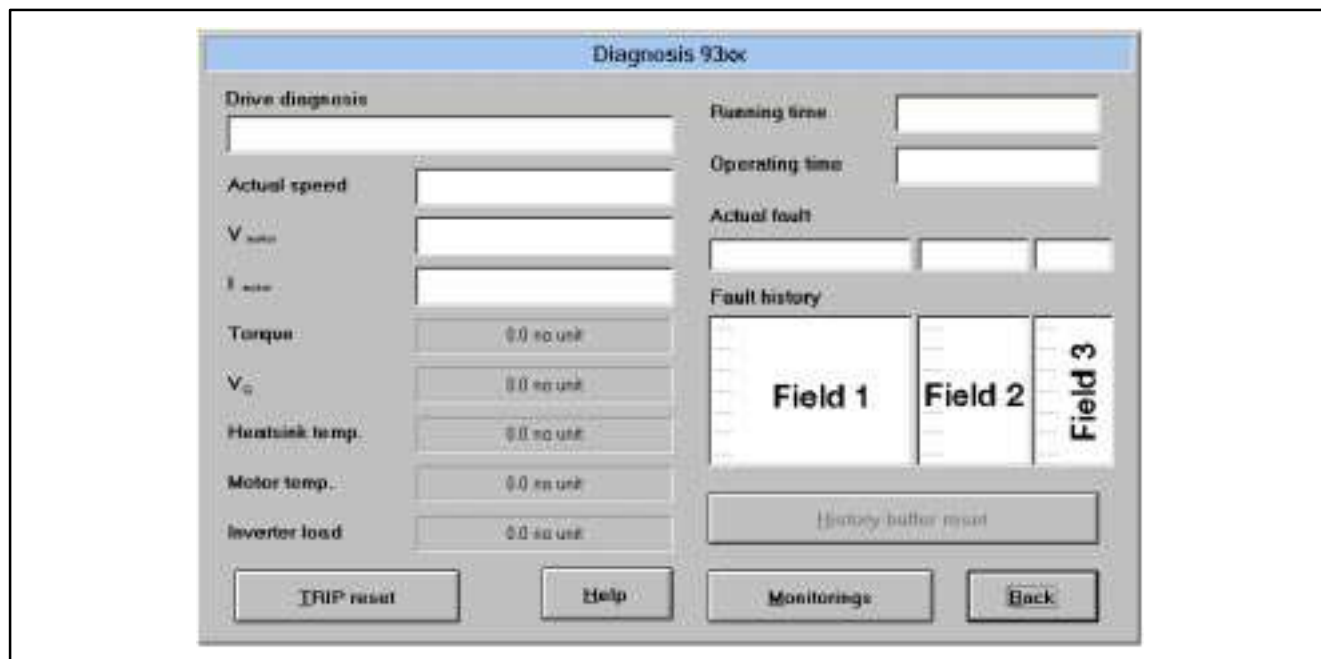

Fig. 8-4 Dialog box "Diagnostics 9300"
- Reference time is the mains switch-on time (see Fig. 8-4, field top right).